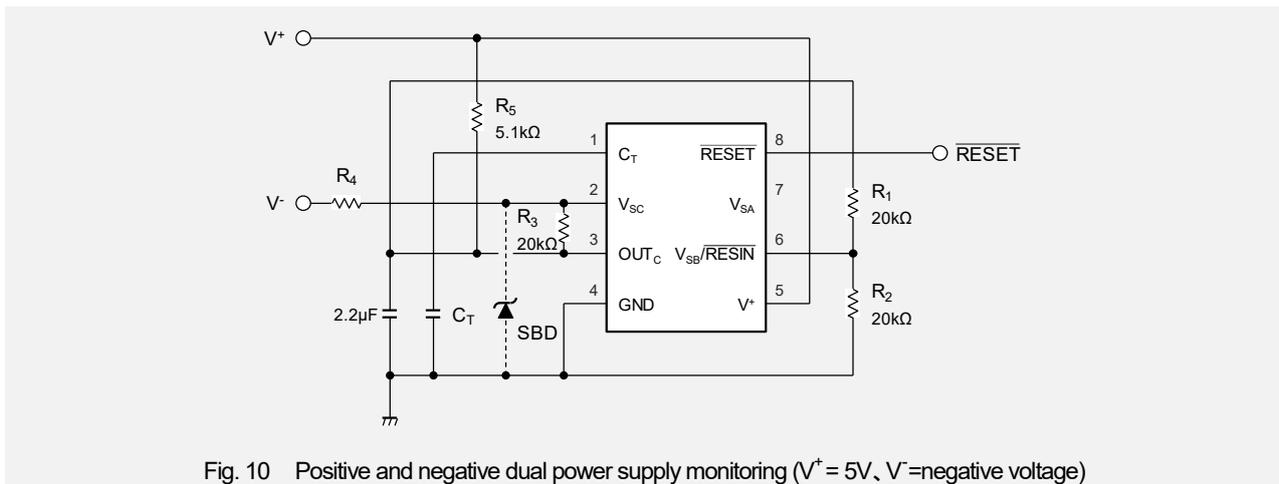

Fig. 10 Positive and negative dual power supply monitoring ($V^+ = 5V$, V^- =negative voltage)
- V^- detection voltage is calculated as following formula. In case of resistor value in Fig.10, the detection voltage (falling) is about -4.3V and the detection voltage (rising) is about -4.4V.